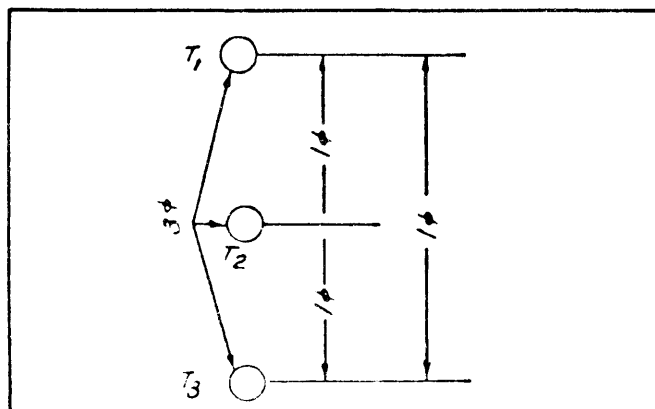

FIGURE 13. 3 PHASE, 3 WIRE
**3 Phase, 3 Wire Plant (Figure 13):** No terminal is grounded. For three phase current, connect separate load wires to each plant terminal T1, T2 and T3.